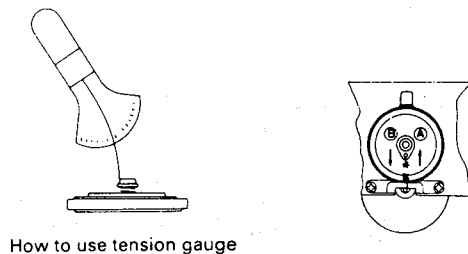

Figure 13.
- 2) Move the reel idler to the center as shown in figure 13.
- 3) Push the reel idler in the direction of the arrow (A) in figure 13, with the tension gauge, until it separates from the reel motor pulley.
- 4) Gradually return the reel idler in the direction of the arrow (B) in figure 13 and check that the value on the tension gauge at the moment the reel idler contacts the reel motor pulley, is within the specified range (120 to 170 g.).